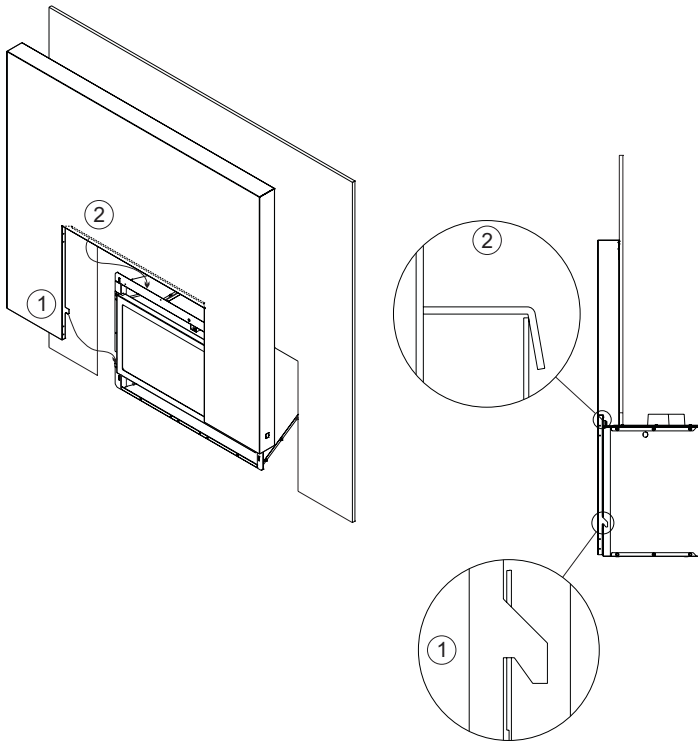

Figure 1
1. Place custom surround against wall and fireplace as shown in **Figure 1**.